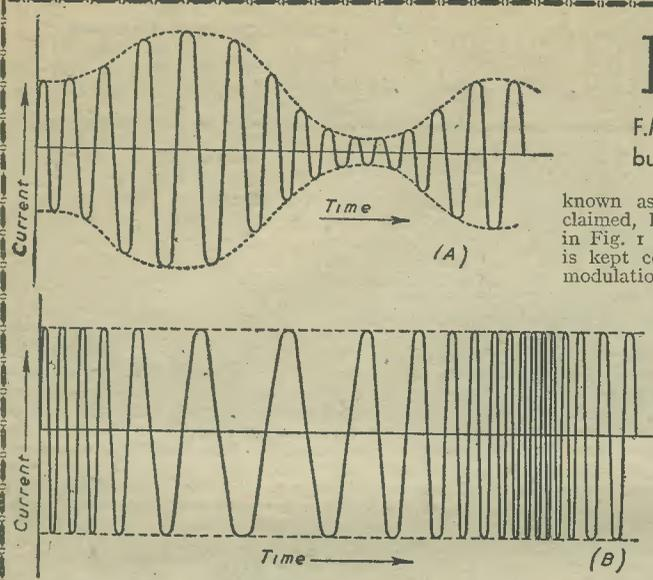

Fig. 1.—Waveforms of (A) Amplitude and (B) Frequency Modulation.
THE type of broadcast transmission to which we are accustomed in this country is known as the amplitude-modulated (A.M.) system. In this, the waveform of the current in the transmitting aerial—and therefore also in the receiving aerial—is as shown in Fig. 1 (A). The amplitude of the current is varying in sympathy with the audio-frequency signal being broadcast, and we know that one effect of modulating a carrier in this way is to produce sidebands, which extend in the case of a high-fidelity broadcast transmitter up to 10 kc/s above and below the carrier frequency so that the transmitter occupies a bandwidth 20 kc/s wide in the ether spectrum.
known as frequency modulation (F.M.), which, it is claimed, has great advantages over A.M. As shown in Fig. 1 (B) the carrier amplitude in the F.M. system is kept constant, but its frequency is varied by the modulation, being swung above and below its average value, the number of swings made per second corresponding with the audio-frequency signal. This system also generates sidebands and in considerable numbers and they occupy a total bandwidth of about 240 kc/s in the case of the American system. It is this fact which has restricted the use of F.M. to the ultra-short wavelengths and we find in the U.S.A. that the carrier frequencies used by the F.M. transmitters lie generally between 40 and 50 mc/s (i.e., between 6 and 7.5 metres). F.M. receivers may be "straight" or superhet, but the chief features of both types are these: they must be capable of tuning to the very high carrier frequencies used; they must be capable of accepting the wide bandwidth between an F.M. and an A.M. receiver—in order to